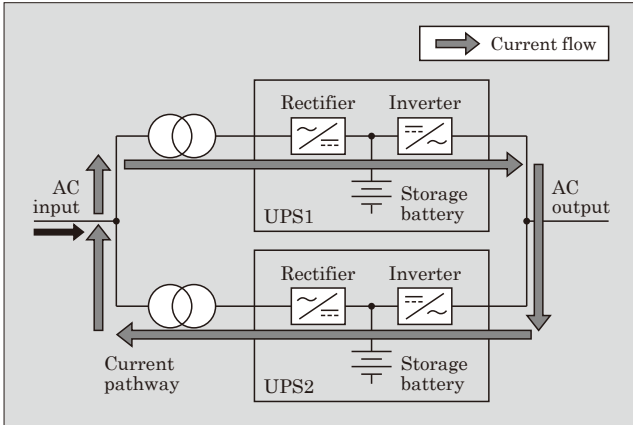

Fig.4 Example of using the power regeneration function
- (1) As shown in Fig. 4, the test can be completed between UPSs connected in parallel. This eliminates the need for dummy loads and temporary cables.
- (2) Conventionally, the power flowing through the dummy load is released as thermal energy. The UPS regenerates power during the test, allowing it to reduce the power consumption to the amount